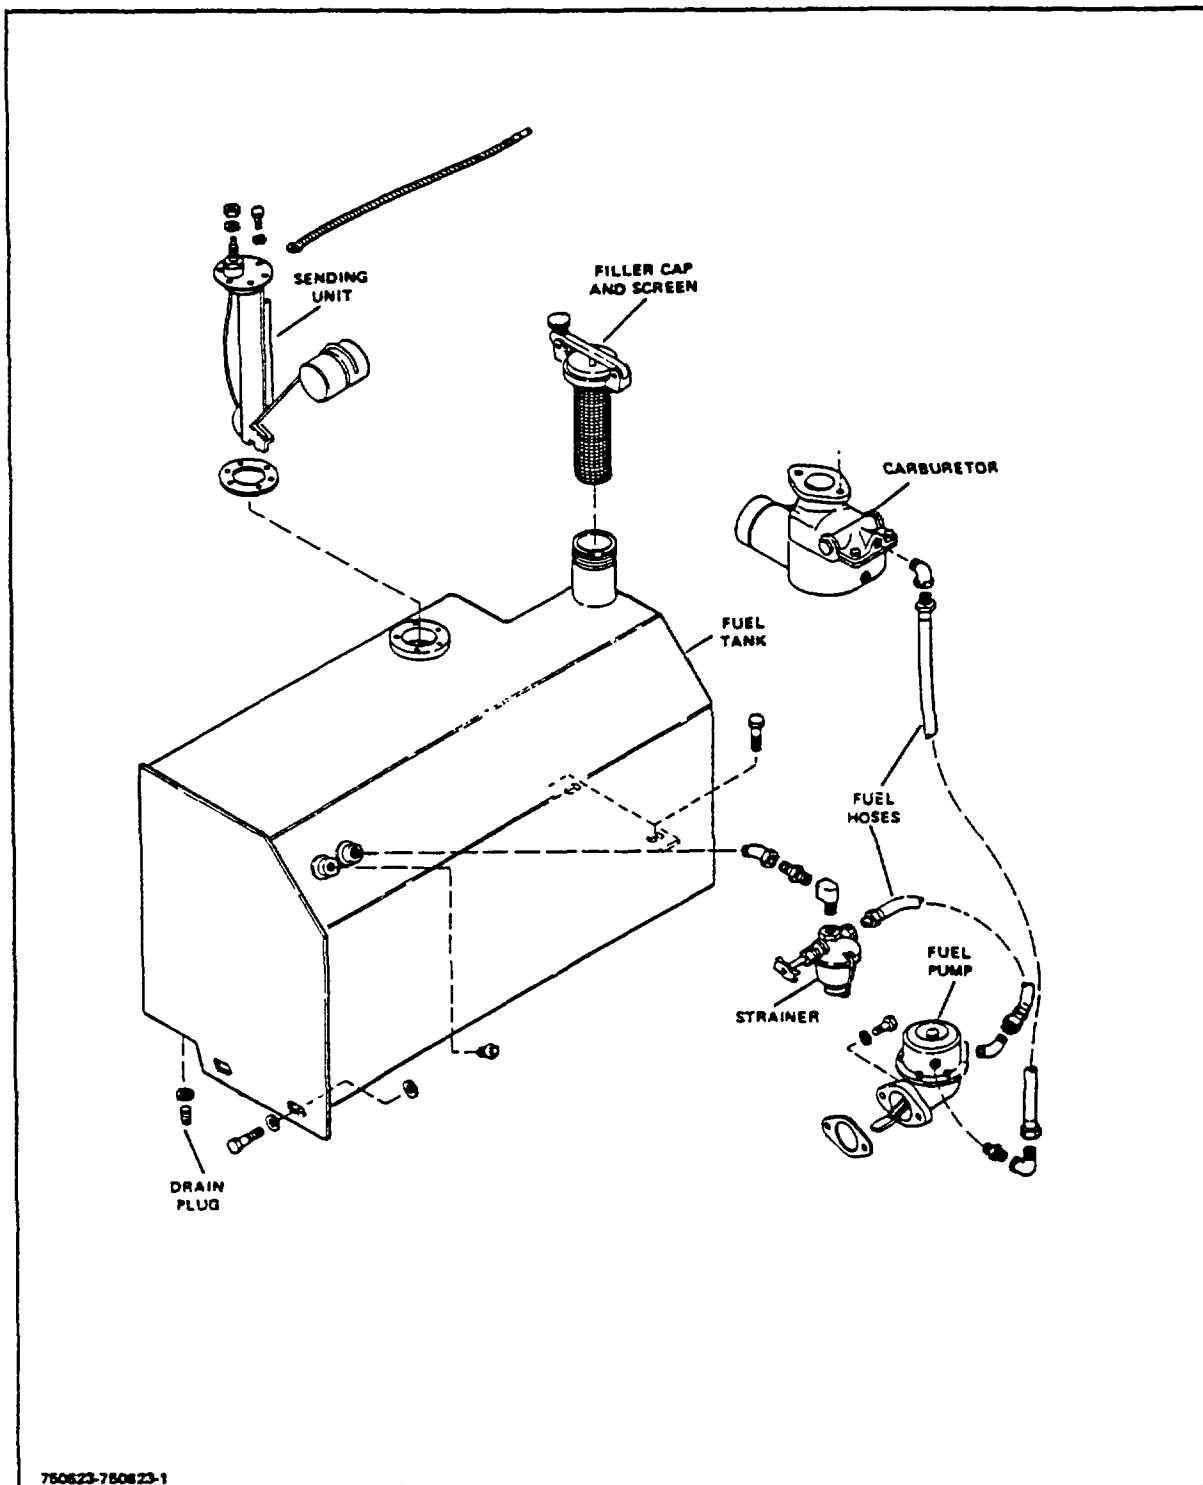

Figure 1-3. Fuel System (Type III)
6. Disconnect fuel gauge sender wire. Disconnect hose from fuel strainer and remove strainer from tank (Fig. 1-3).
11. Connect fuel strainer to elbow in top of tank and connect hose to strainer (Fig. 1-3).
On ACP model trucks the fuel strainer is connected directly to the tank and fuel is delivered to the fuel pump through a connecting hose (Fig. 1-3).
1. Install elbow in filter cover and install cover on fitting in full tank (Fig. 1-3).